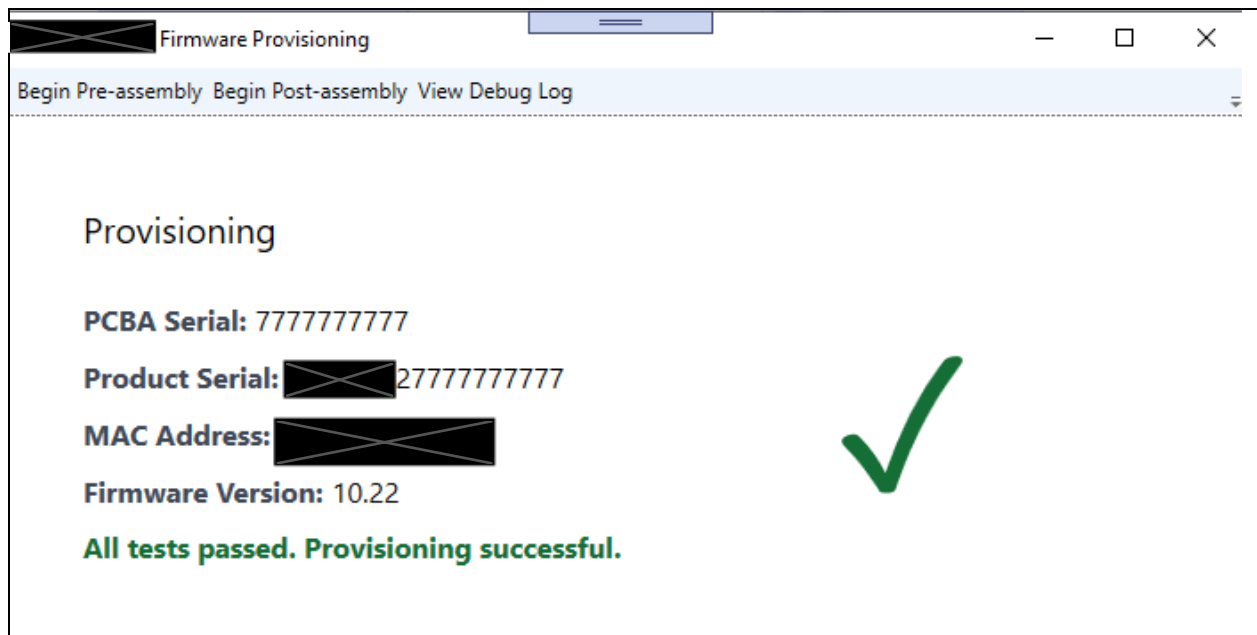

Fig. 11
1. The app will automatically enter this step after the bluetooth test is complete and the application has posted the harness information to the API. The app will run through a WiFi test and remove test data. Provisioning is successful when the app displays a green checkmark. (Fig. 11)